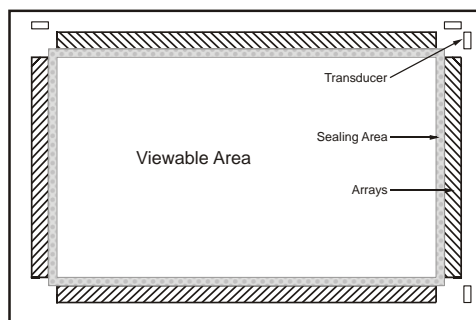

Figure 2-1. Important regions of the IntelliTouch IT screen
- **ACTIVE AREA (AA):** The area of a screen which is responsive to touch.
- **ANTI-GLARE (AG) FINISH:** A treatment that roughens the surface of glass. The AG coatings scatter specular reflections into a wide viewing cone to diffuse glare and reflection.
- **ANTI-REFLECTIVE (AR) COATING:** A multi-layer coating on the surface of the glass that reduces the intensity of the light that is reflected. Elo does not recommended addition of AR coatings for touch screens since they are expensive, increase coefficient of friction and show finger prints.
- **ARRAYS:** Acoustically reflecting line segments that act as beam splitters and deflect surface acoustic waves into or out of the active area. The location of these arrays can be seen in Figure 2-1.
- **SEALING FOAM:** Foam applied around the active area of the touchscreen to keep spills or dust build-up from affecting the reflector arrays. The foam must be adhered to the bezel, not to the touchscreen. The allowable sealing area is shown in Figure 2-1.